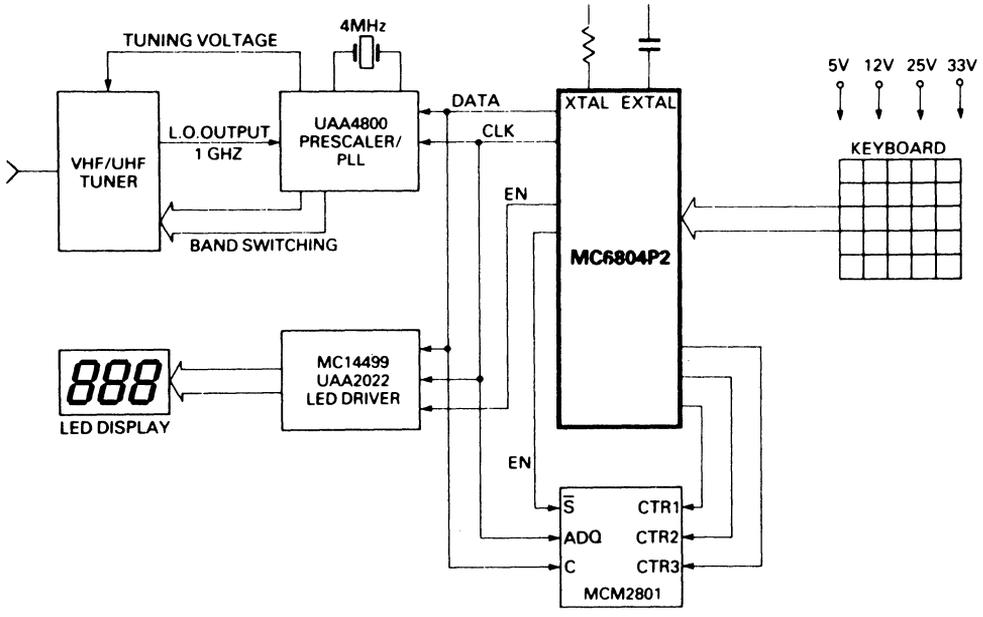

Figure 6.1. Manual TV Synthesiser
6.2.1 TV Synthesiser (Fig 6.1)